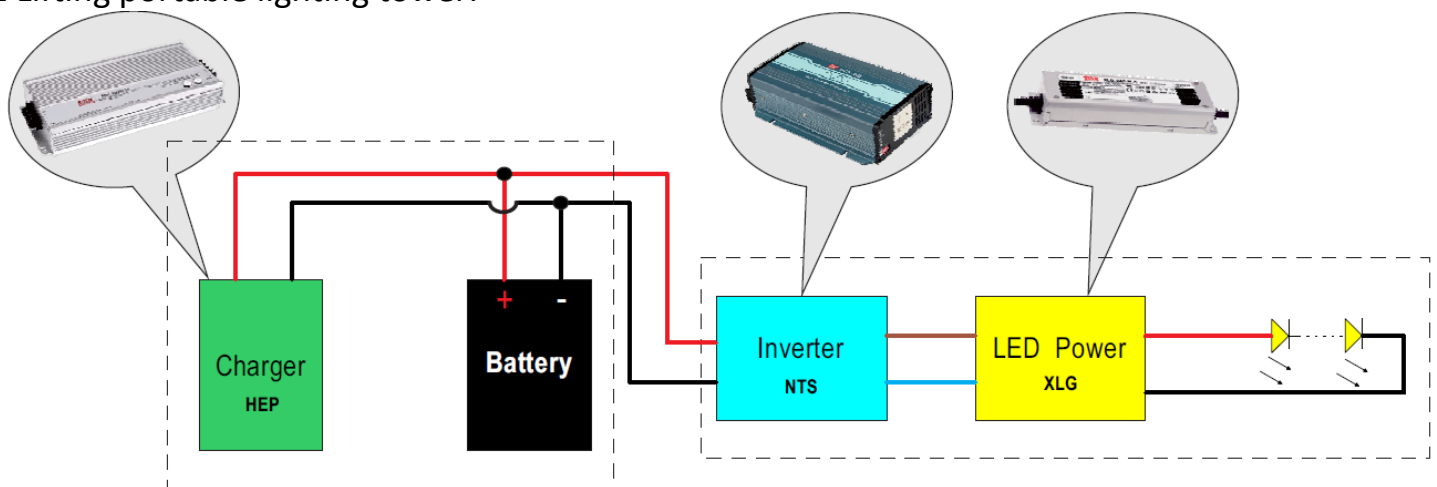
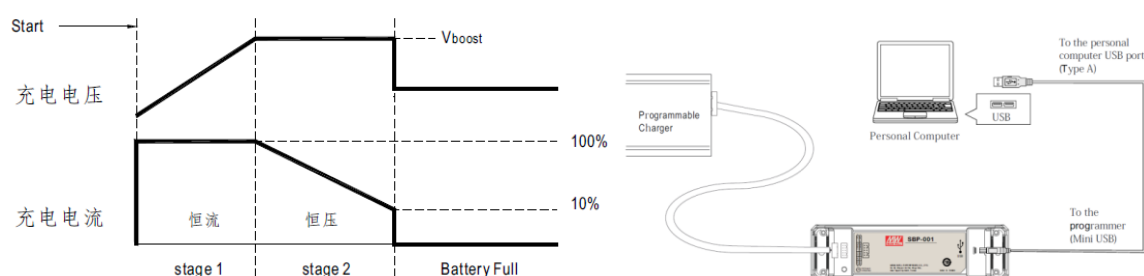

Figure 3 Configuration of lifting portable lighting tower
Figure 4 HEP-1000 charging curve and configuration of SBP-001 programmer
■As shown in Figure 3, it is a built-in charger with a lithium battery, inverter, LED driver and LED lamp for those portable lighting towers. HEP-1000 from MEAN WELL can modify the charging curve by SBP-001 (Figure 4) and satisfy different kinds of application for various battery.